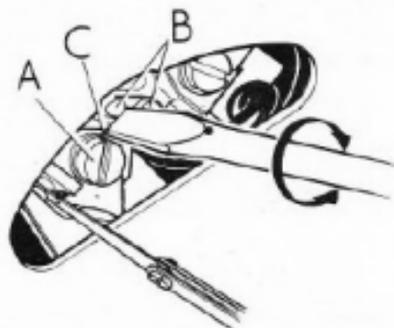
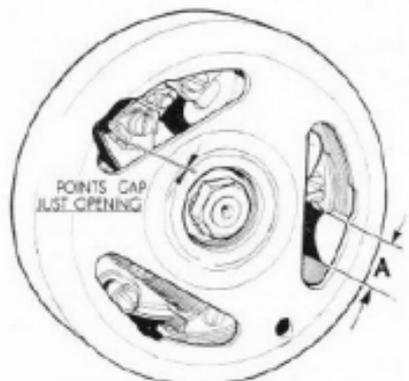

FIG. B19. Setting points gap.
FIG. B20. Rupture gap.
To set the contact breaker gap, the flywheel should be placed in the position shown in Fig. B20, this will open the points to their fullest extent. Now proceed as follows: slacken fixing screw (A) Fig. B19, half a turn and insert a screwdriver blade between notches (B) on the base plate and opening (C) in the fixed contact. Twisting the screwdriver will alter the gap.
Mount a dial test indicator gauge, on a magnetic stand, on the cylinder barrel face, bring the piston to top dead centre and set the clock at zero. Turn the engine backward about -100° (2.5 mm) and slip a piece of cigarette paper between the contact breaker points. Now turn the engine forward and between -078° — -085° (2—2.2 mm.) the paper should be released. If release is not obtained between the figures specified, slacken the three screws securing the stator plate and turn it a few degrees, either way, until the required setting is reached. At this point, the rupture gap should be -275° — -433° (7—11 mm.) as dimension (A) in Fig. B20.